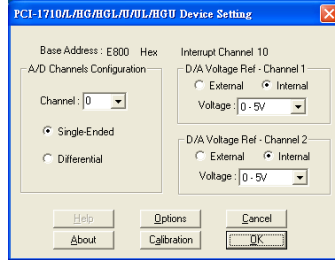

Figure 2.4: The Device Setting Dialog Box
3. Please click the Setup button to configure your device. On the *Device Setting* dialog box (Fig. 2-4), you can configure the A/D channels configuration either as *8 Differential* or *16 Single-ended*, specify the D/A voltage reference either as *External* or *Internal* and specify the voltage output range for the two D/A channels.